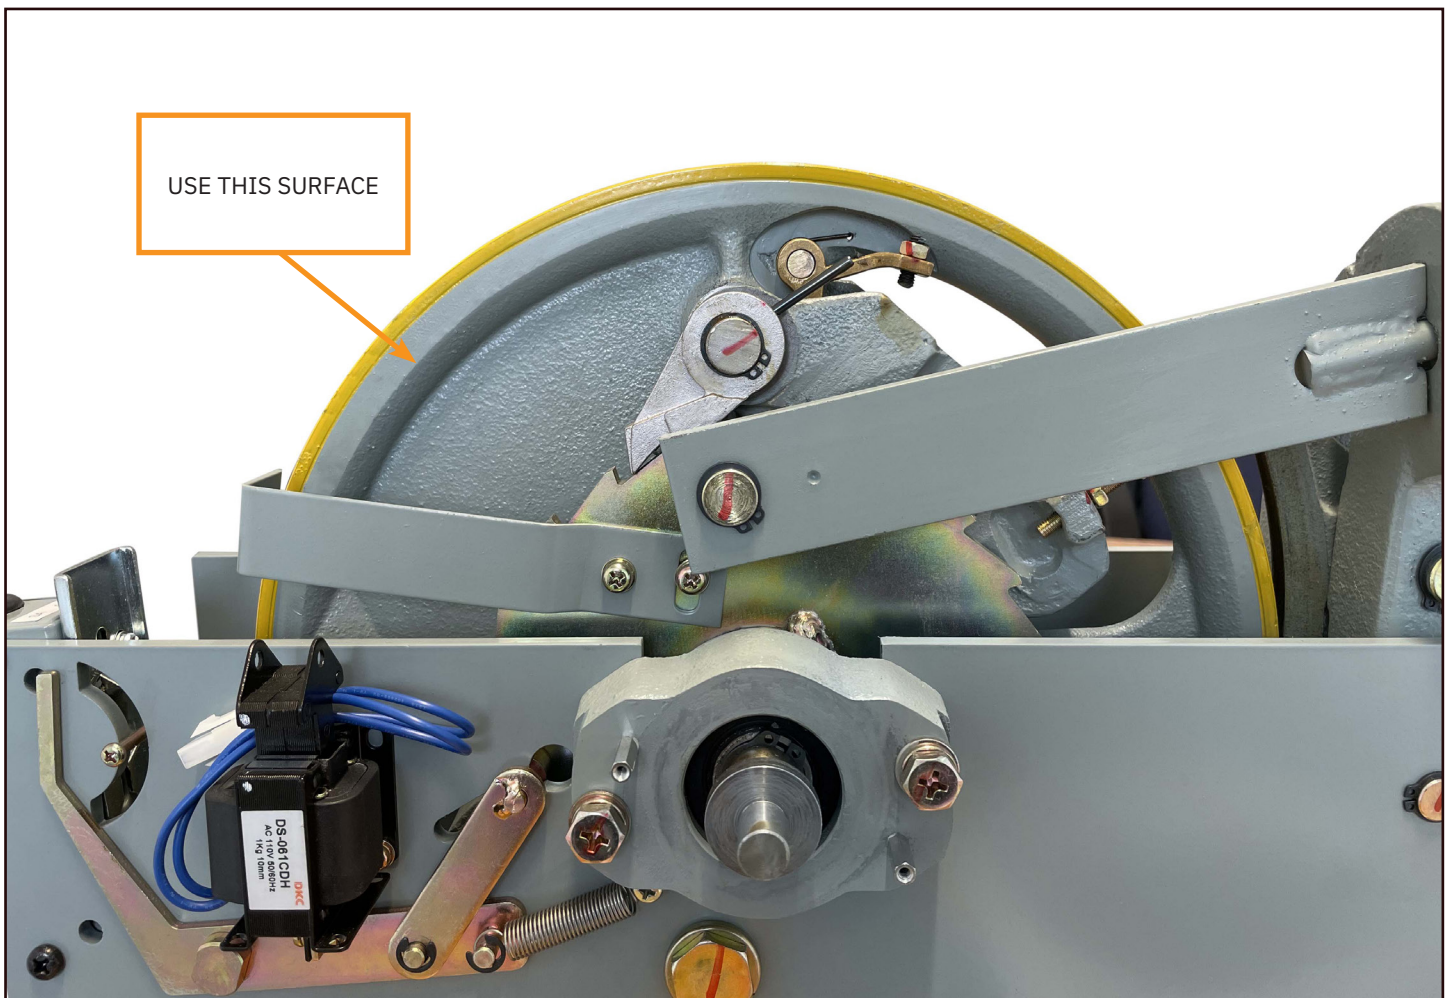

Figure 1
- With a rubber drive wheel held against the governor sheave (see figure 1), slowly spin the governor sheave in the opposite direction of the one indicated by the arrow painted on the housing ("UP" direction of the car).